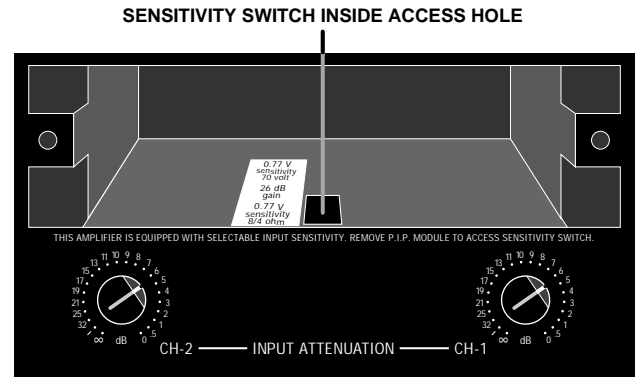

Fig. 4.2 Input Sensitivity Switch
3. Locate the access hole for the sensitivity switch inside the chassis opening (Figure 4.2).